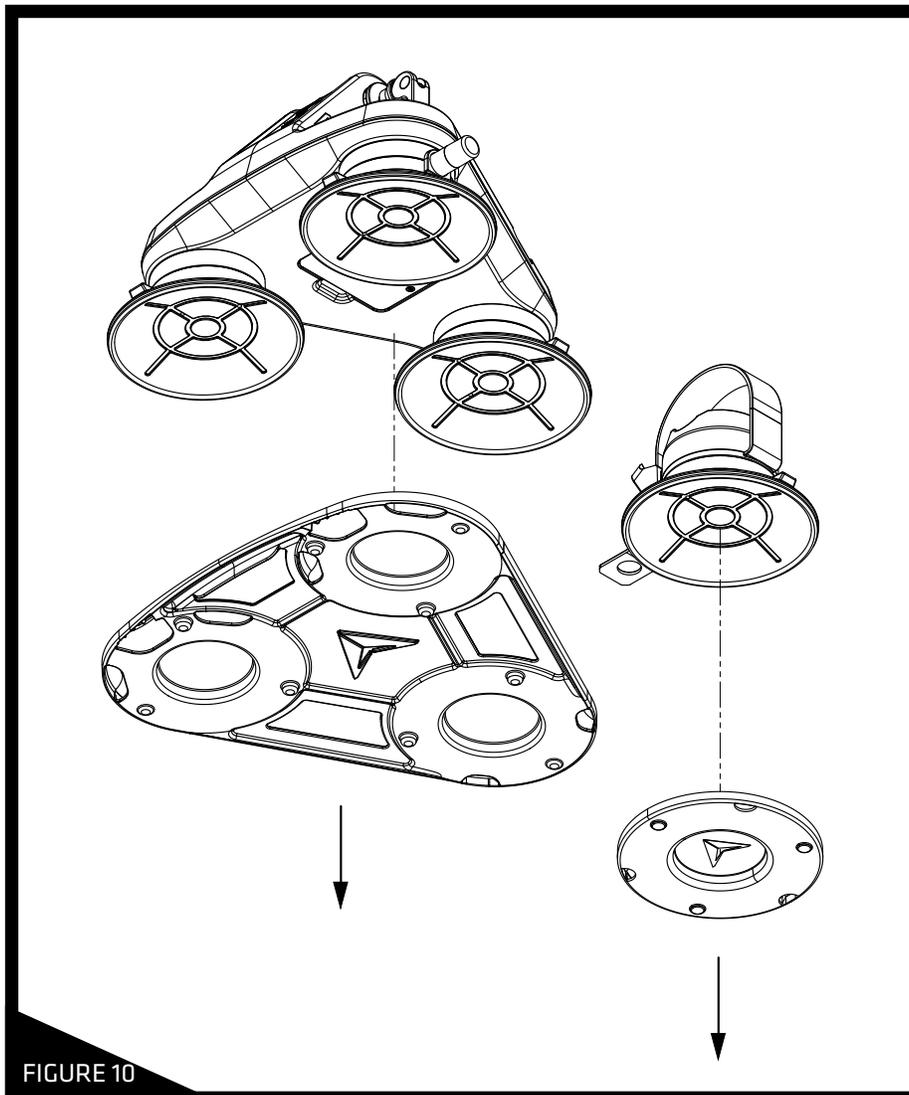

FIGURE 10
STEP 2: Remove the red protective suction cup covers from the Front Assembly and Rear Assembly as shown in **Figure 10**. Ensure that the suction cups are clean and free from debris.